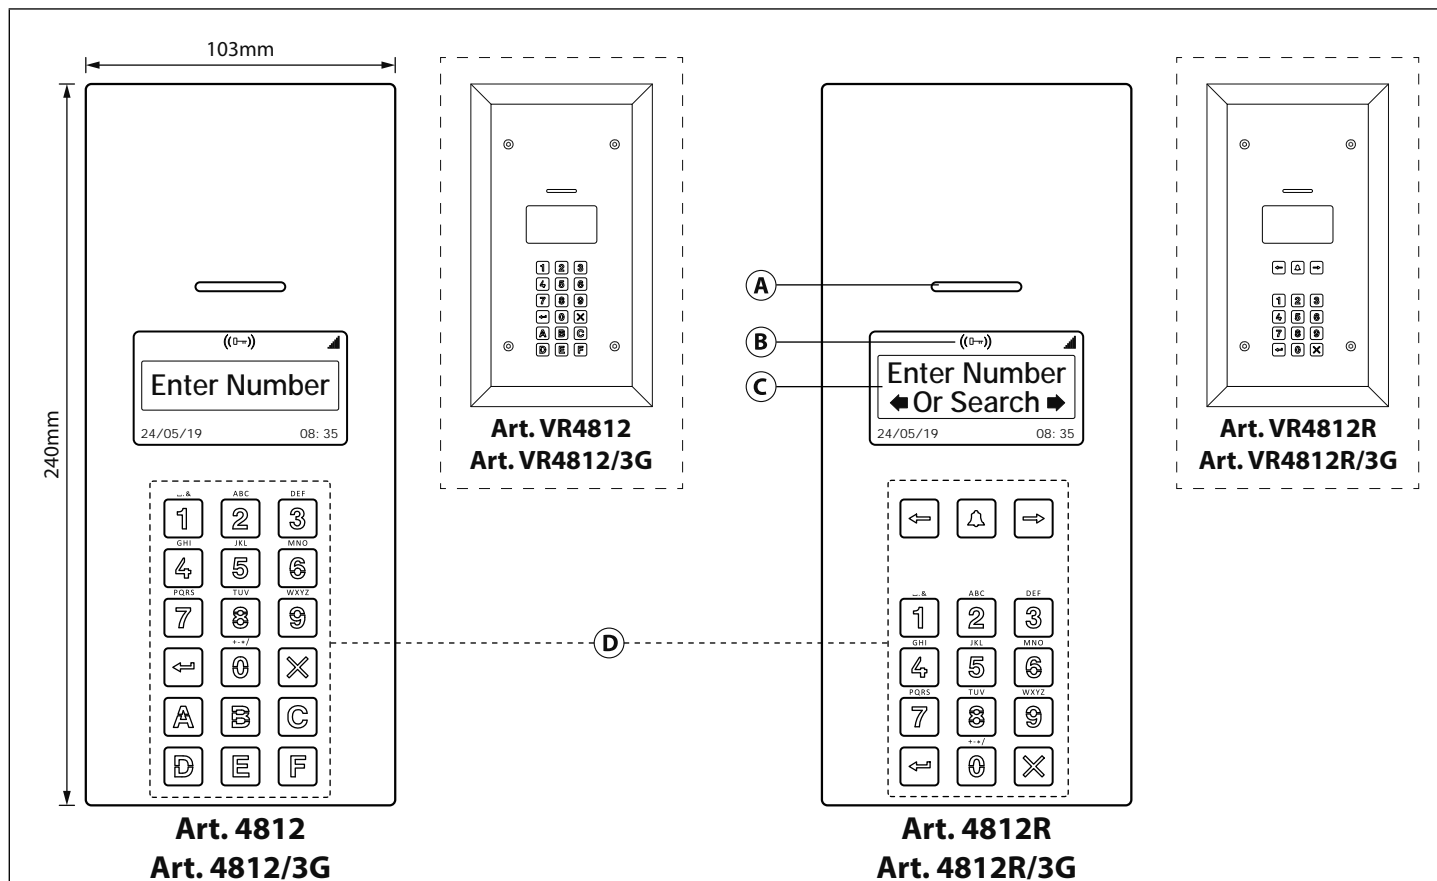

Fig. 9 - Front View
- New SIM cards will need registering with the network service provider before they can be used. Full details of how this is done can normally be found in the SIM card pack. It will normally require that the SIM card is inserted into a mobile phone, a number dialled and instructions followed. While the SIM is in the mobile phone it would be a good time to disable any PIN codes, call diverts, ring back and disable features such as voicemail and text alerts. Details of how to do this can be found on the SIM card provider's web site or by calling their customer services. Recommended SIM card providers are: Vodafone, T-Mobile, O2 or Orange/EE. **The 3 network can only be used on our 3G devices (Art.4812/3G, Art.VR4812/3G etc.), also see Fig.9 on page 8.**